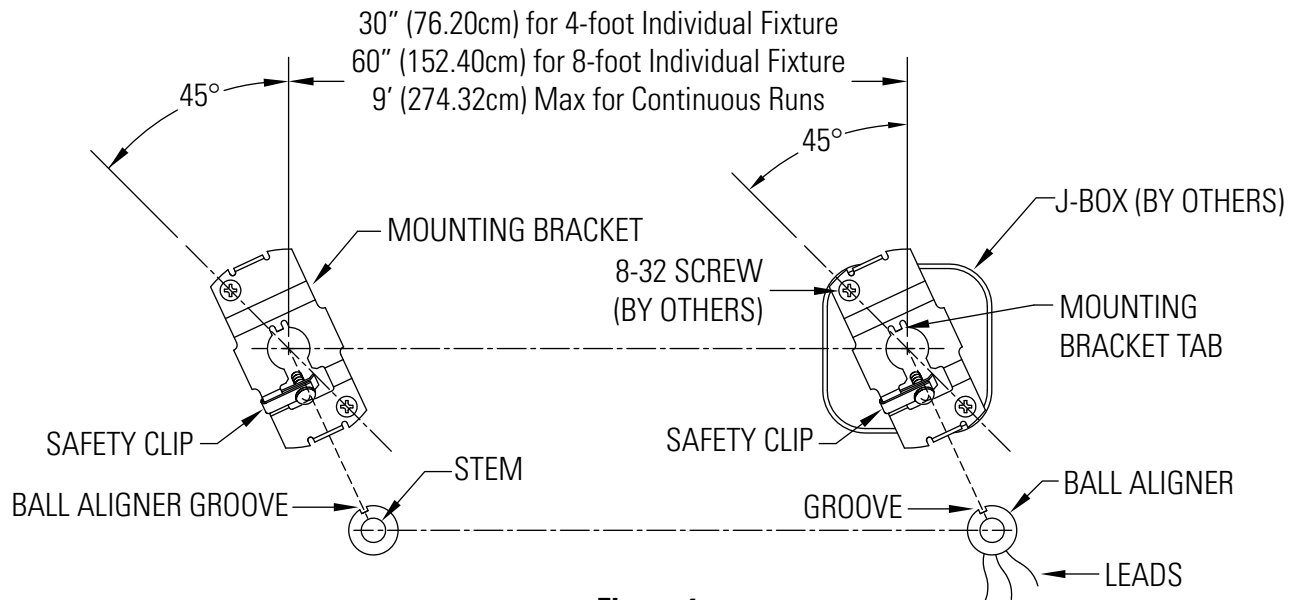
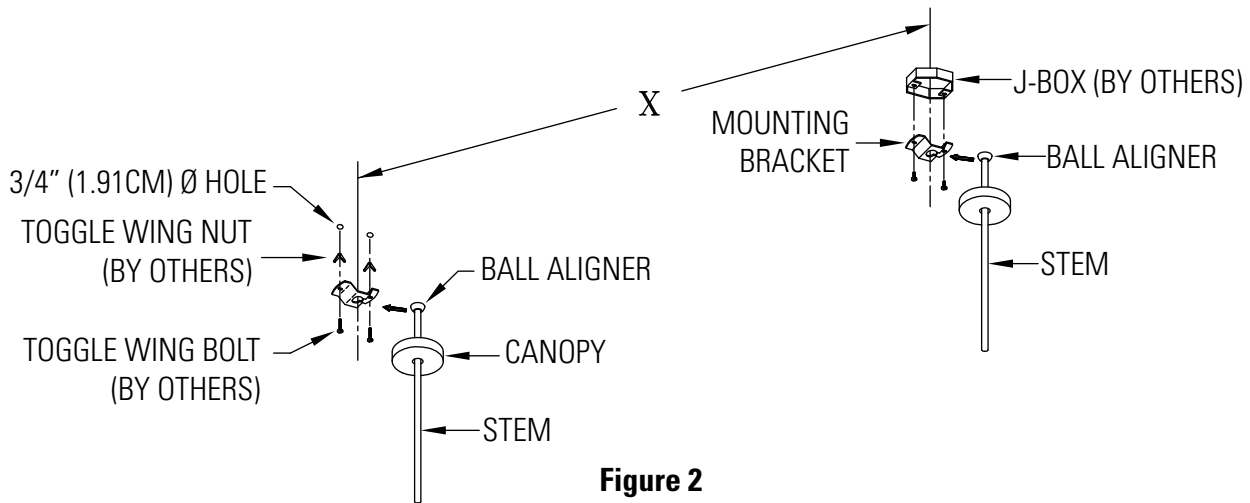

Figure 1
Figure 2
- A. Attach with two (2) 8-32X1" SCREWS provided with J-BOX.
- A. Mark off mounting distances from center of J-BOX to next mounting center. Maximum 9' (274.32cm) on continuous runs. (Fig. 1)
- B. Drill two (2) 3/4" (1.91cm) Ø holes at same 45° angle as the two (2) 8-32 SCREWS on the first MOUNTING BRACKET. (Fig. 1 & 2)
- B. Attach TOGGLE BOLTS (BY OTHERS) to MOUNTING BRACKET and slip TOGGLE WING NUTS (BY OTHERS) thru 3/4" (1.91cm) Ø holes in ceiling securing MOUNTING BRACKET firmly to ceiling. (Fig. 2) **IMPORTANT! Opening of all MOUNTING BRACKETS must be aligned in same direction.** (Fig. 1)
- A. Remove SAFETY CLIP from MOUNTING BRACKET opening and slide STEM thru opening. (Fig. 1)